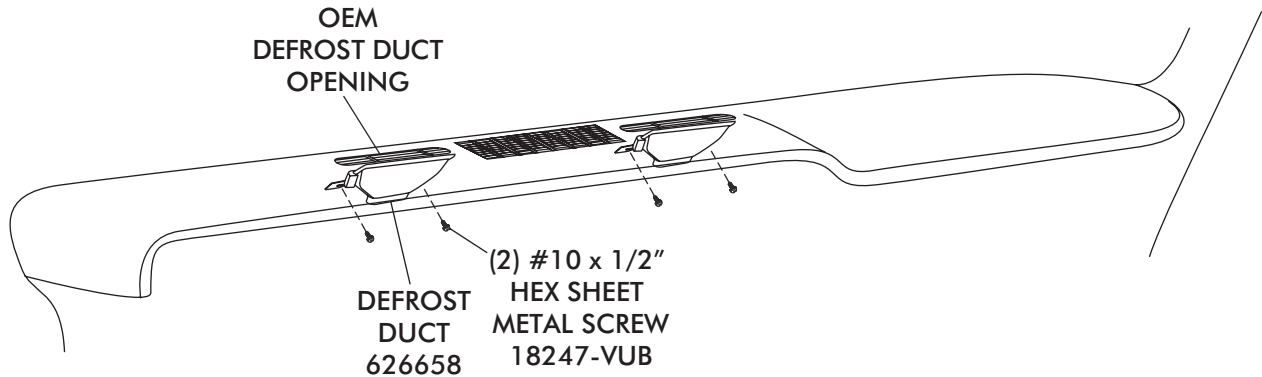

FIGURE 4
- INSTALL THE DRIVER AND PASSENGER SIDE DEFROST DUCT ASM TO COWL USING (2) #10 x 1/2" HEX SHEET METAL SCREWS.
- NOTE: APPLY SILICONE ON SCREWS TO ENSURE LEAK FREE INSTALLATION. SEE FIGURE 4 BELOW.**